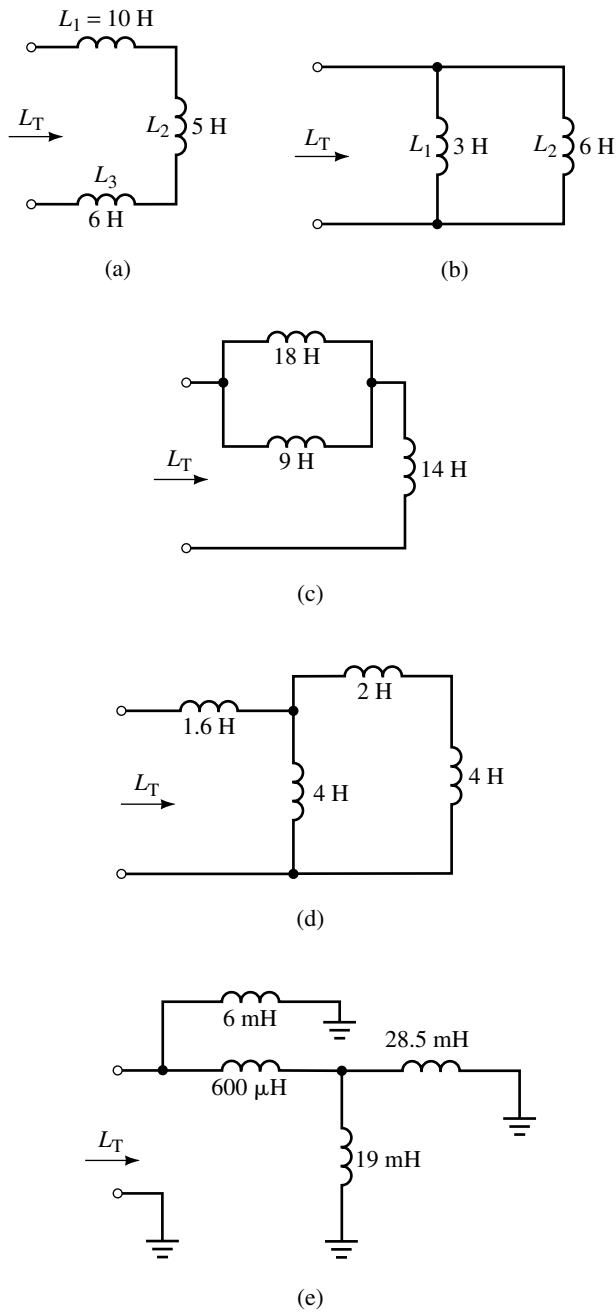

FIGURE 13-35
21. Determine L_T for the circuits of Figure 13-35.